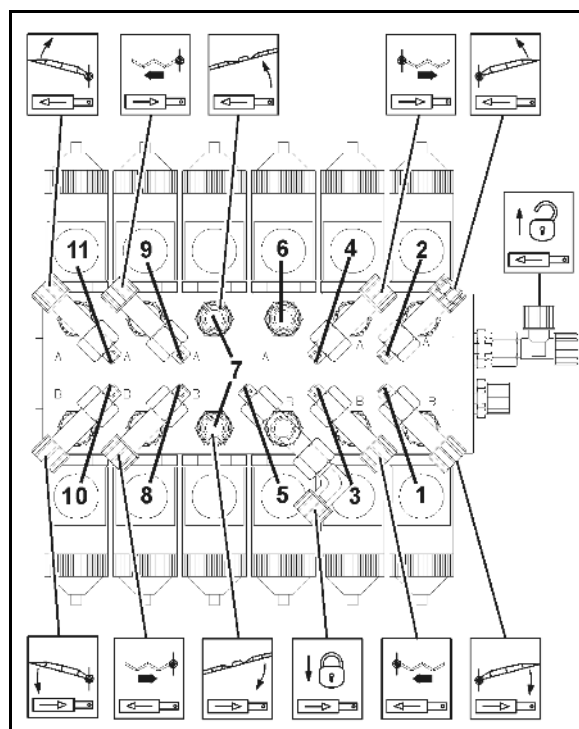

Fig. 198
2. If necessary, refill oil when the pump is not running (maximum up to the marker (Fig. 198/1).
5. Turn the drive shaft left and right alternately and slowly fill with new oil. The right quantity of oil has been reached when the oil is visible at the mark (Fig. 198/1).